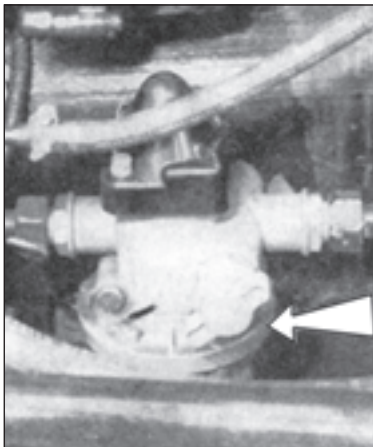

Fig. 161
- ch) After 70 engine hours have been accomplished, check whether the nuts (Fig. 161) of the lower flange on the air pressure regulator are properly screwed in.